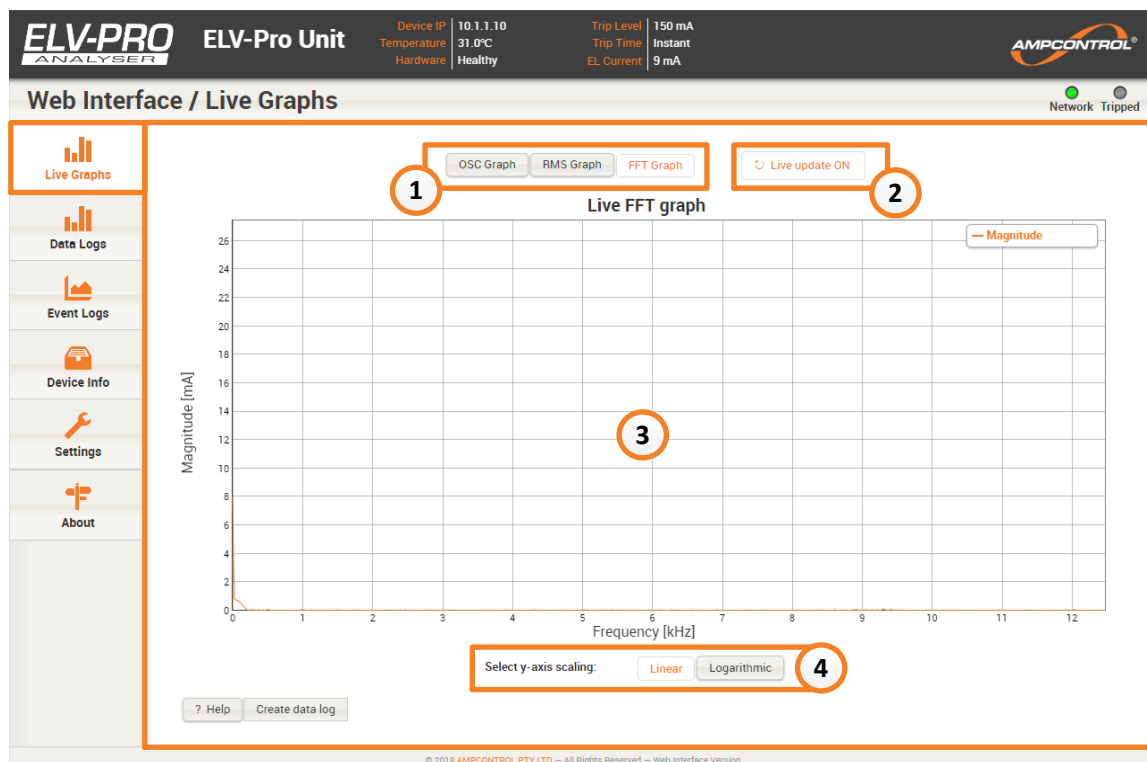

Figure 6.5: ELV-PRO Web Interface - Live Graphs (FFT)
- FFT graph: This plot shows the frequency content of the past 80ms worth of instantaneous measurements. Figure 6.5.